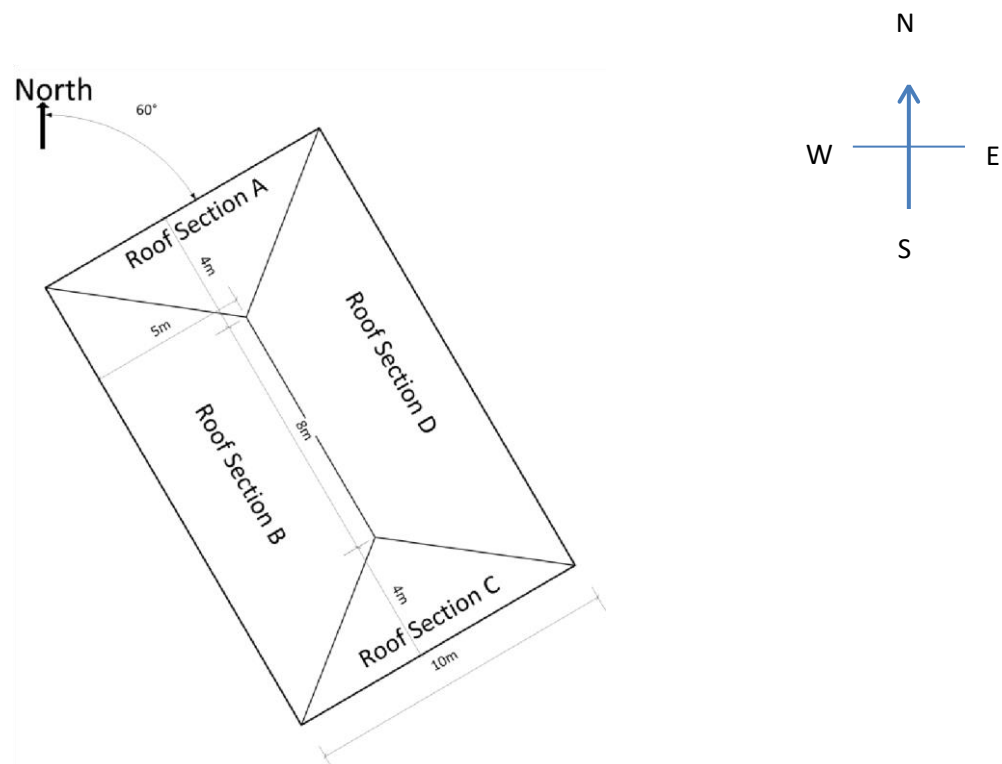

Fig. 1 Plan view of the roof
You are required to design a 3 kW STC rated grid-connected photo-voltaic (PV) array as a roof-top installation for a shed near Meekatharra whose latitude is  $26.5^\circ$  South. The plan view of the roof is as shown in Fig. 1. The tilt angle of the roof is  $22^\circ$ .